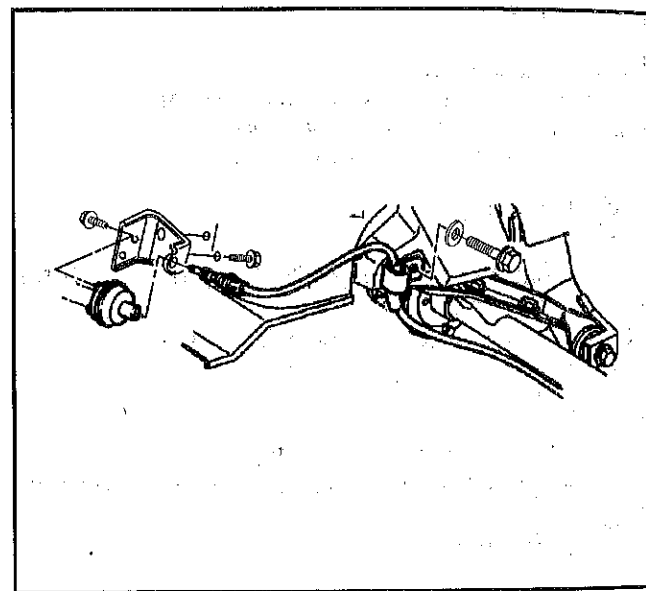

Figure 16—Shift Cable
↔ Remove or Disconnect (Figures 16 through 21)
- C. Squeeze the two locking fingers of the cable ferrule with pliers (Figure 16). Then pull the cable from the bracket.
2. Bolts (Figure 16).
→ Install or Connect (Figures 16, 18, and 21)
Remove or Disconnect (Figure 16)
Install or Connect (Figure 16)